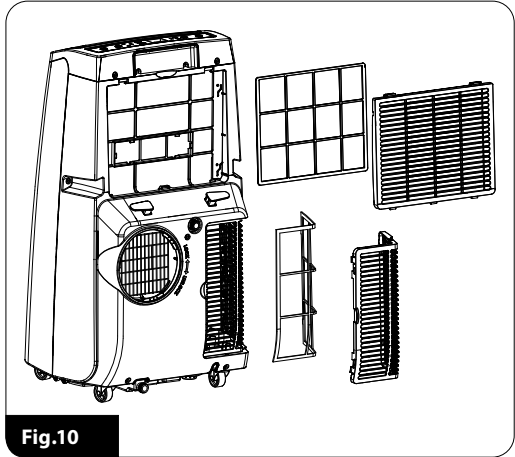

Fig.10
- Release the upper and lower air intake grilles (13) (8) from the latches on the back of the air conditioner. Remove the filter (Fig. 10) from the back of each air intake grille by gently prising the tabs (do this very carefully or the filter / grille will be damaged).